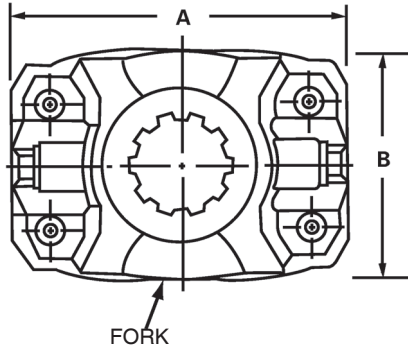

Figure 10.1
1. Measure dimensions A and B of the fork you are servicing. Figure 10.1.